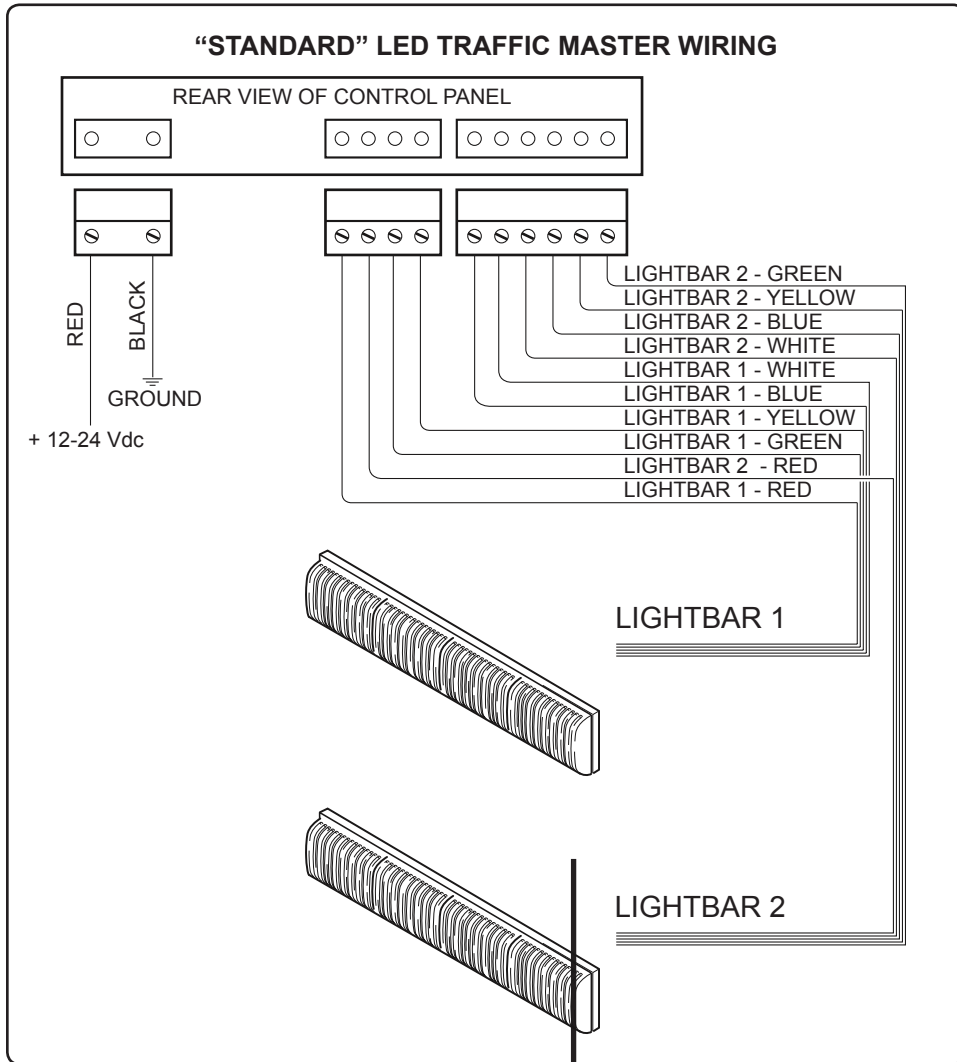
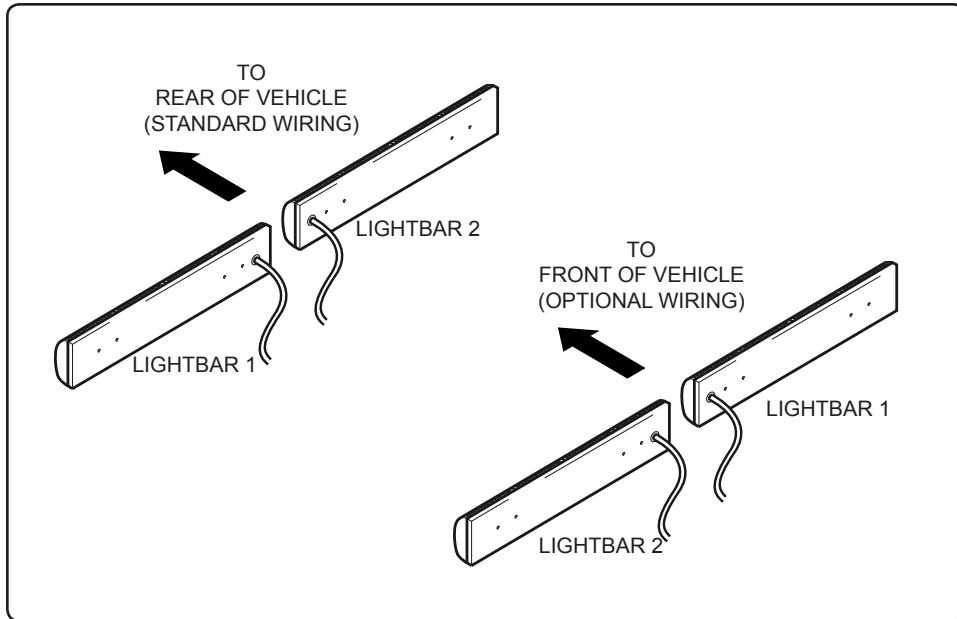

Figure 5. Standard and Optional Wiring Schematics
Figure 2. Mounting Configurations
- Attach the power and ground wire to the appropriate pins in the 2 pin socket housing as shown in Figure 5.
- Attach the wires from the two 5 wire harnesses into the appropriate 6 & 4 pin connectors as shown in Figure 5. BE SURE TO PLACE THE PINS IN THE PROPER SEQUENCE!!!
The Split Arrow LED Traffic Master should be mounted using the adjustable “L” brackets which are provided. Refer to page 5 for specific mounting instructions. In addition, note Figure 2, relating to mounting configurations and STANDARD or OPTIONAL wiring specification. See page 7, Figure 5 for specific wiring.